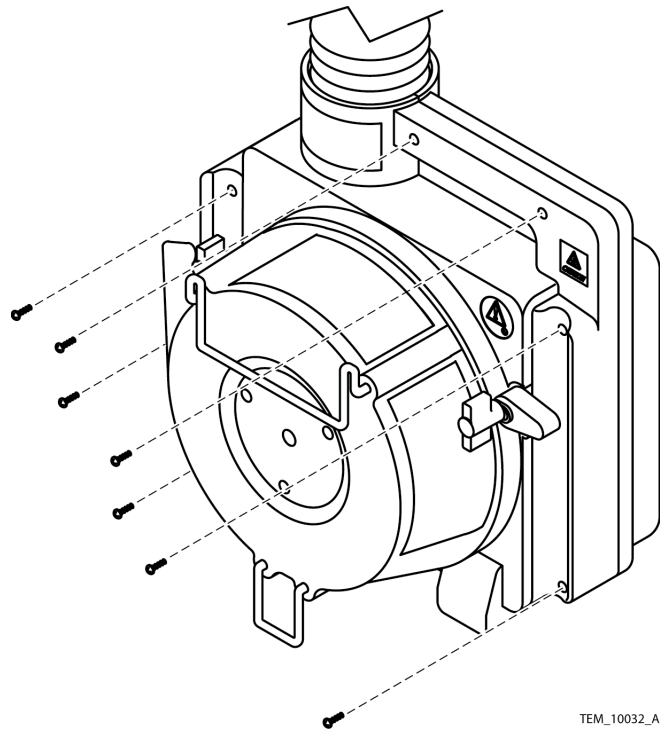

Figure 5-6. Cover Screw Locations
2. Install the screws through the holes in the rear cover to attach it to the front cover. Tighten the screws to 7 to 10 in/lbs (18 cm/kg to 25 cm/kg). See Figure 5-6.